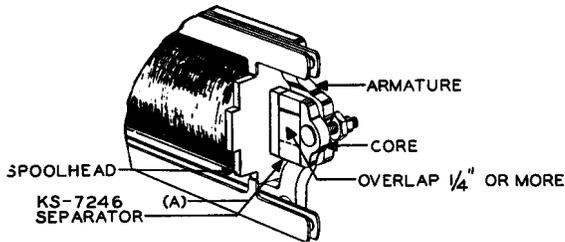

Fig. 2 - Position of KS-7246 Separator on Core
2.04 Application of KS-7246 Separator: Fig. 2(A) - When difficulty is experienced in meeting the specified release requirements due to sticking conditions between the armature and the core, the KS-7246 separator may be applied in accordance with Section 040-014-811 covering the list of relays on which removable paper armature stops and separators